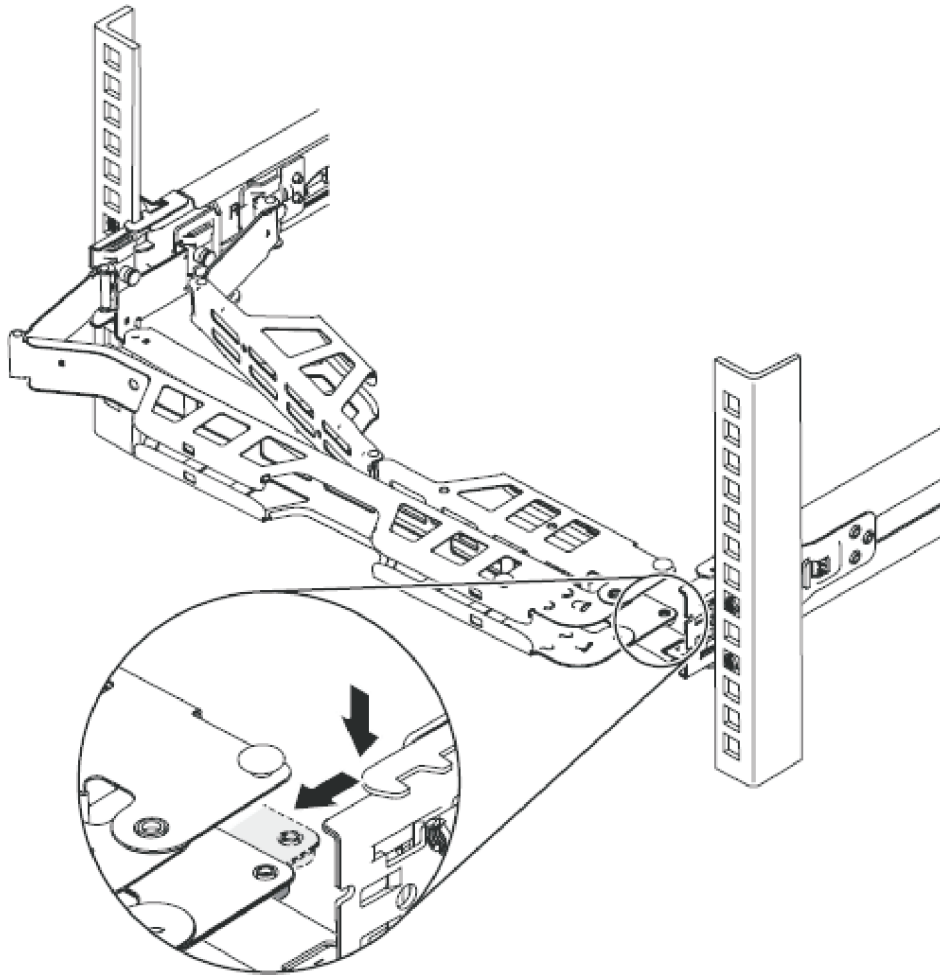

Figure 16. Adjusting the location of the cable-management arm
3. Adjust the location of the cable management arm, as shown in Figure 16 on page 33.